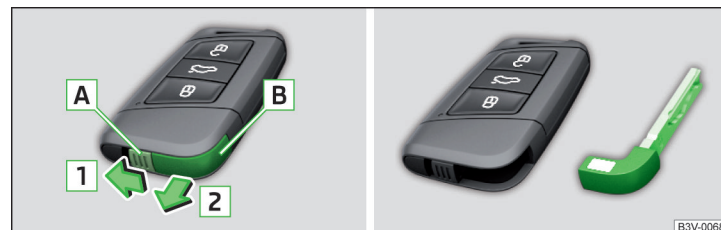

Fig. 343 Remove emergency key
- › Unlock the locking lug **A** in the direction of arrow **1** and remove the emergency key **B** in the direction of arrow **2** » Fig. 343.